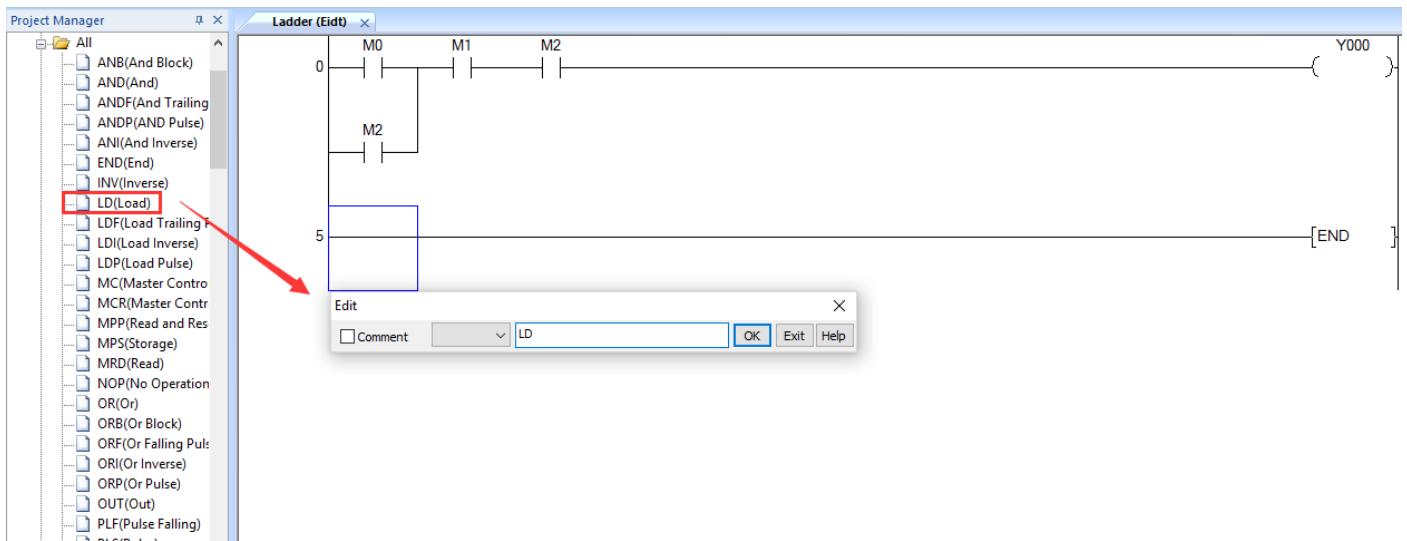

Figure 4-2
- 5) The [Edit] window will pop up automatically with selected instruction, as Figure 4-2 shows;